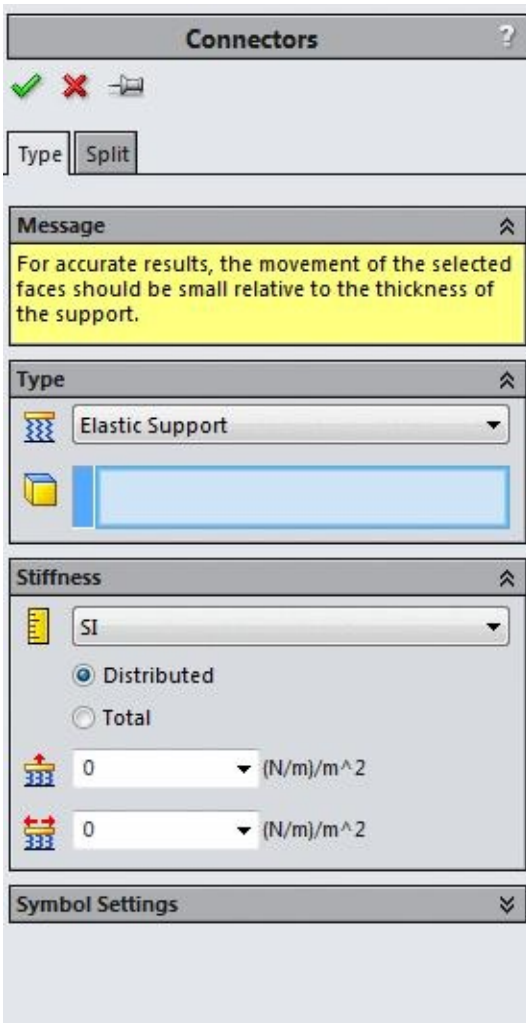

Figure-22. Connectors PropertyManager
- Click on the **Elastic Support** button from the **Fixtures Advisor** drop-down. The **Connector PropertyManager** will display as shown in Figure-22.